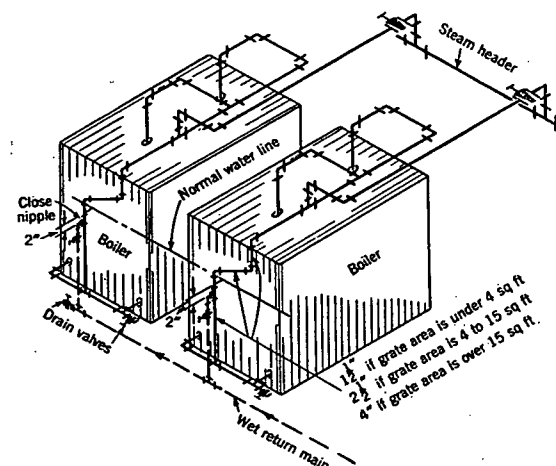

FIG. 3. THE HARTFORD RETURN CONNECTION
In order to prevent the boiler from losing its water under any circumstances, the use of the Hartford connection, or the Underwriters Loop, is recommended. This connection for a one- or two-boiler installation is shown in Fig. 3. The essential features of construction of a Hartford Loop connection are: (1) a direct connection (made without valves) between the steam side of the boiler and the return side of the boiler, and (2) a close nipple connection about 2 in. below the normal boiler water line from the return main to the boiler steam and return pressure balance connection. Equalizing pipe connections between the steam and return are given in Fig. 3, based on grate areas, but in no case shall this pipe size be less than the main return piping from the system.